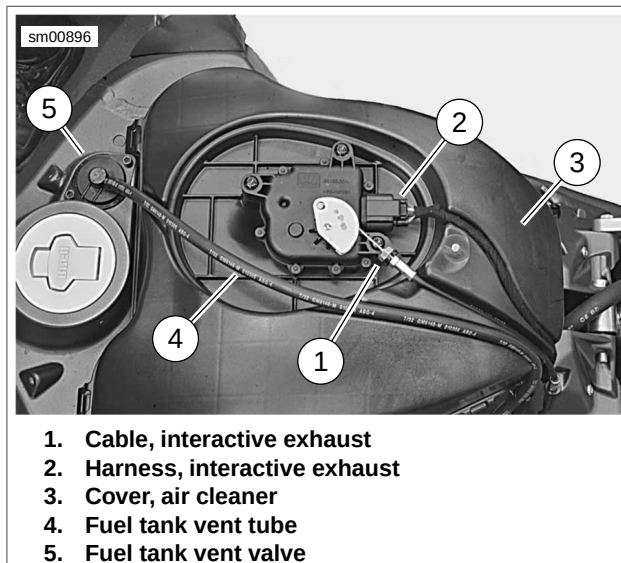

Figure 4-2. Air Cleaner Cover, Fuel Tank Vent Tube and Fuel Tank Vent Valve (XB12R)
2. See Figure 4-1 or Figure 4-2. Remove fuel tank vent tube (4) from fuel tank vent valve (5) and groove on top of air cleaner cover (3).